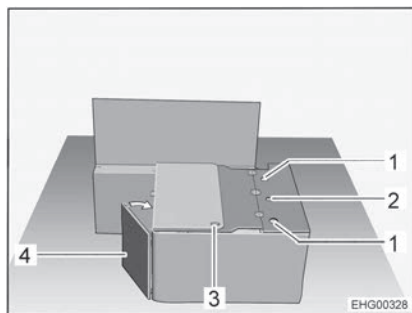

Fig. 24 During conversion
- Swing the bench seat panel (Fig. 24,4) towards the side wall.
- Route the safety belt with the seatbelt lock through the orifice (Fig. 24,3) in the bench seat cover.
- Insert the backrest of the attachable seat into the side holders (Fig. 24,1) and tighten the star knob screw on the centre holder (Fig. 24,2) by hand.